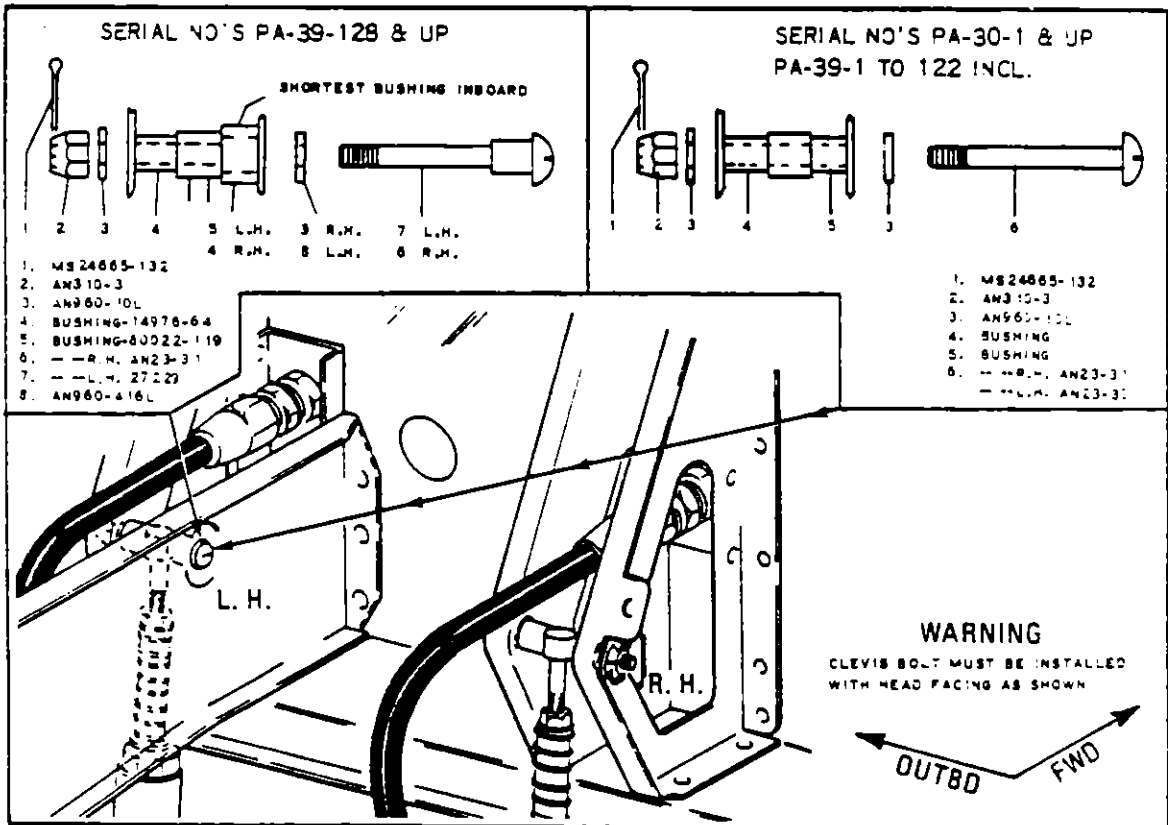

Figure 7-26a. Brake Cylinder Installation
7-71. INSTALLATION OF BRAKE CYLINDER. (Refer to Figure 7-26a.)
- a. Position the cylinder in its mounting bracket and insert the upper mounting bolts from the inboard side of each cylinder along with the appropriate hardware as shown in Figure 7-26a.
The correct upper mounting bolt must be installed as shown in Figure 7-26a for the particular serial numbered aircraft being serviced.